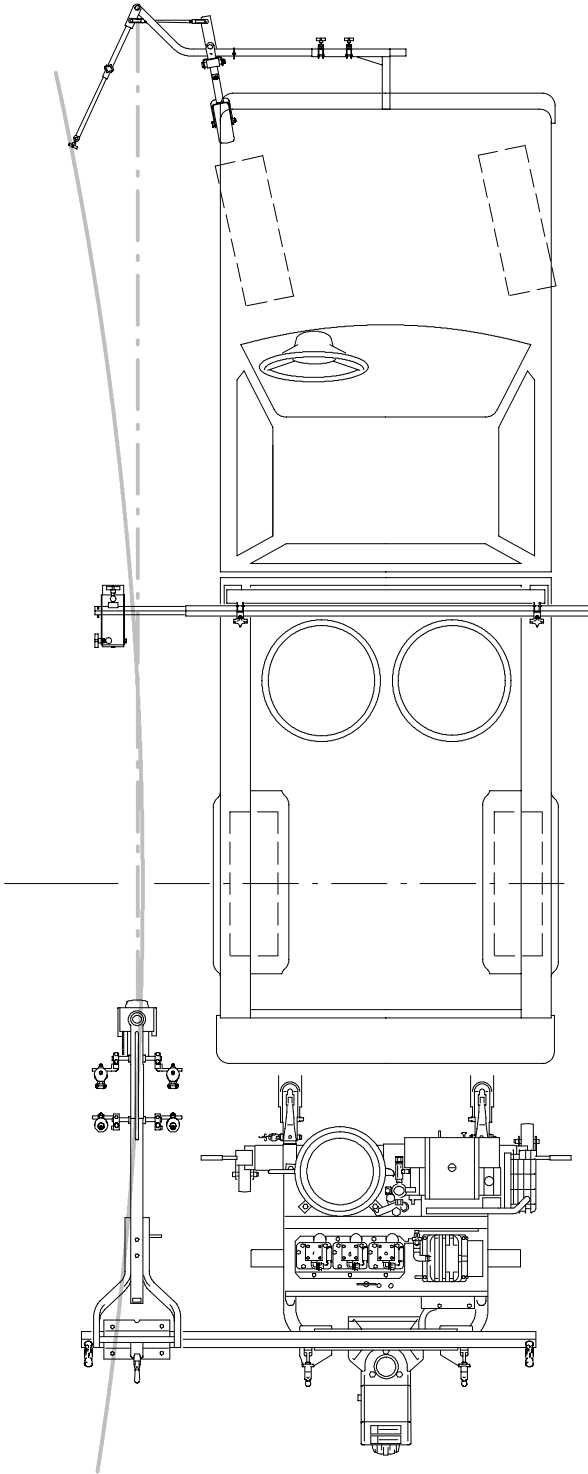

Fig. 13
- Whether painting straight or curved lines, keep pointer image on video monitor screen **on the line**, and the striping guns will follow. As shown in Fig. 13, pointer floats left or right when truck turns.